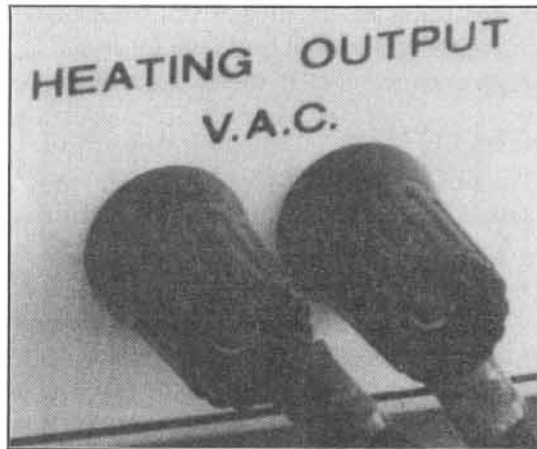

FIGURE 7. UNIVERSAL CORD ATTACHMENT
- attach Universal Power Cord (PACE Part No. 7000-0023) to the "VAC HEATING OUTPUT" terminals. Depress Foot Pedal to activate power (refer to Figure 7).